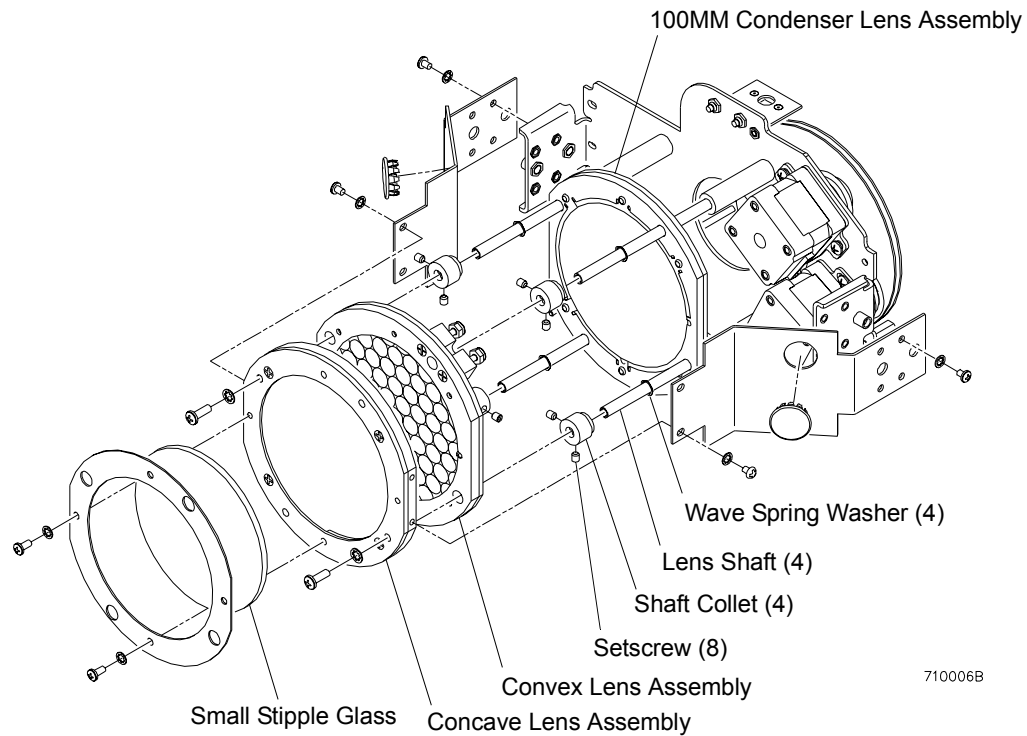

Figure 2-16: 100MM Condenser Lens Assembly Replacement
- Step 5. Using 5/64 " Allen wrench, loosen eight setscrews (two each collet), and remove four shaft collets and four wave spring washers from lens shafts (**Figure 2-16**).